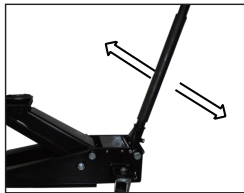

fig 6.
2. Rapidly pump the handle assembly 10 to 20 times to purge air from the hydraulic system (fig.6).